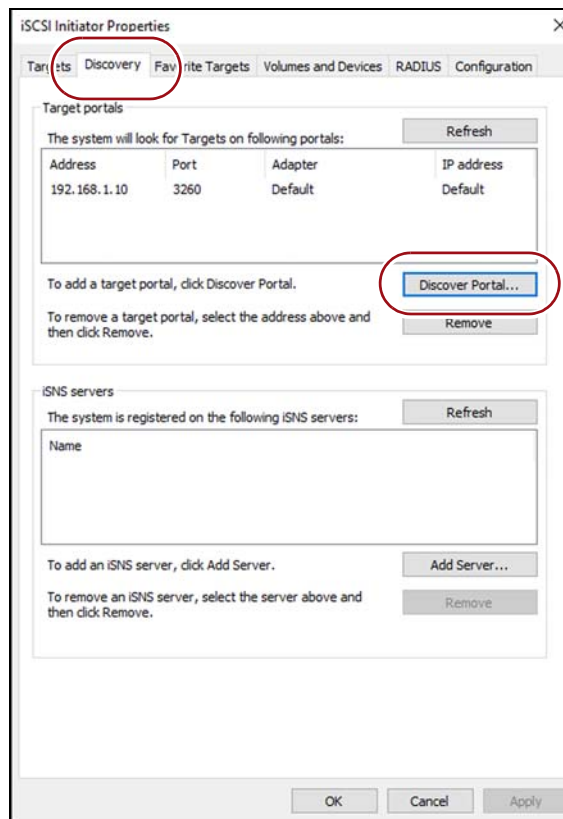

Figure 21 The iSCSI Initiator Properties Tool.
6. Click **OK**. The target portal displays in the Target Portals pane (see Figure 21 on page 23).